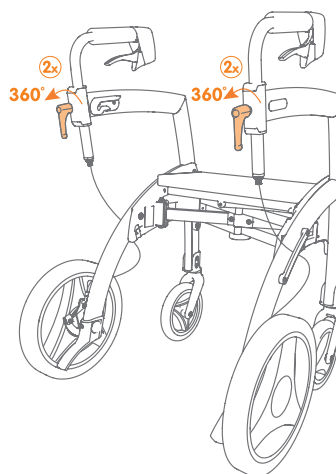

Figure 13: Loosen the adjustment handles.
- a. Loosen the adjustment handles on the handles counterclockwise (**Figure 13 and 14**).